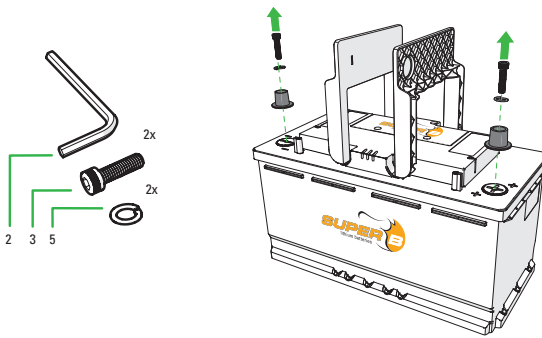

Figure 6. Remove the automotive power terminals.
1. Remove the automotive power terminals. (Figure 6)